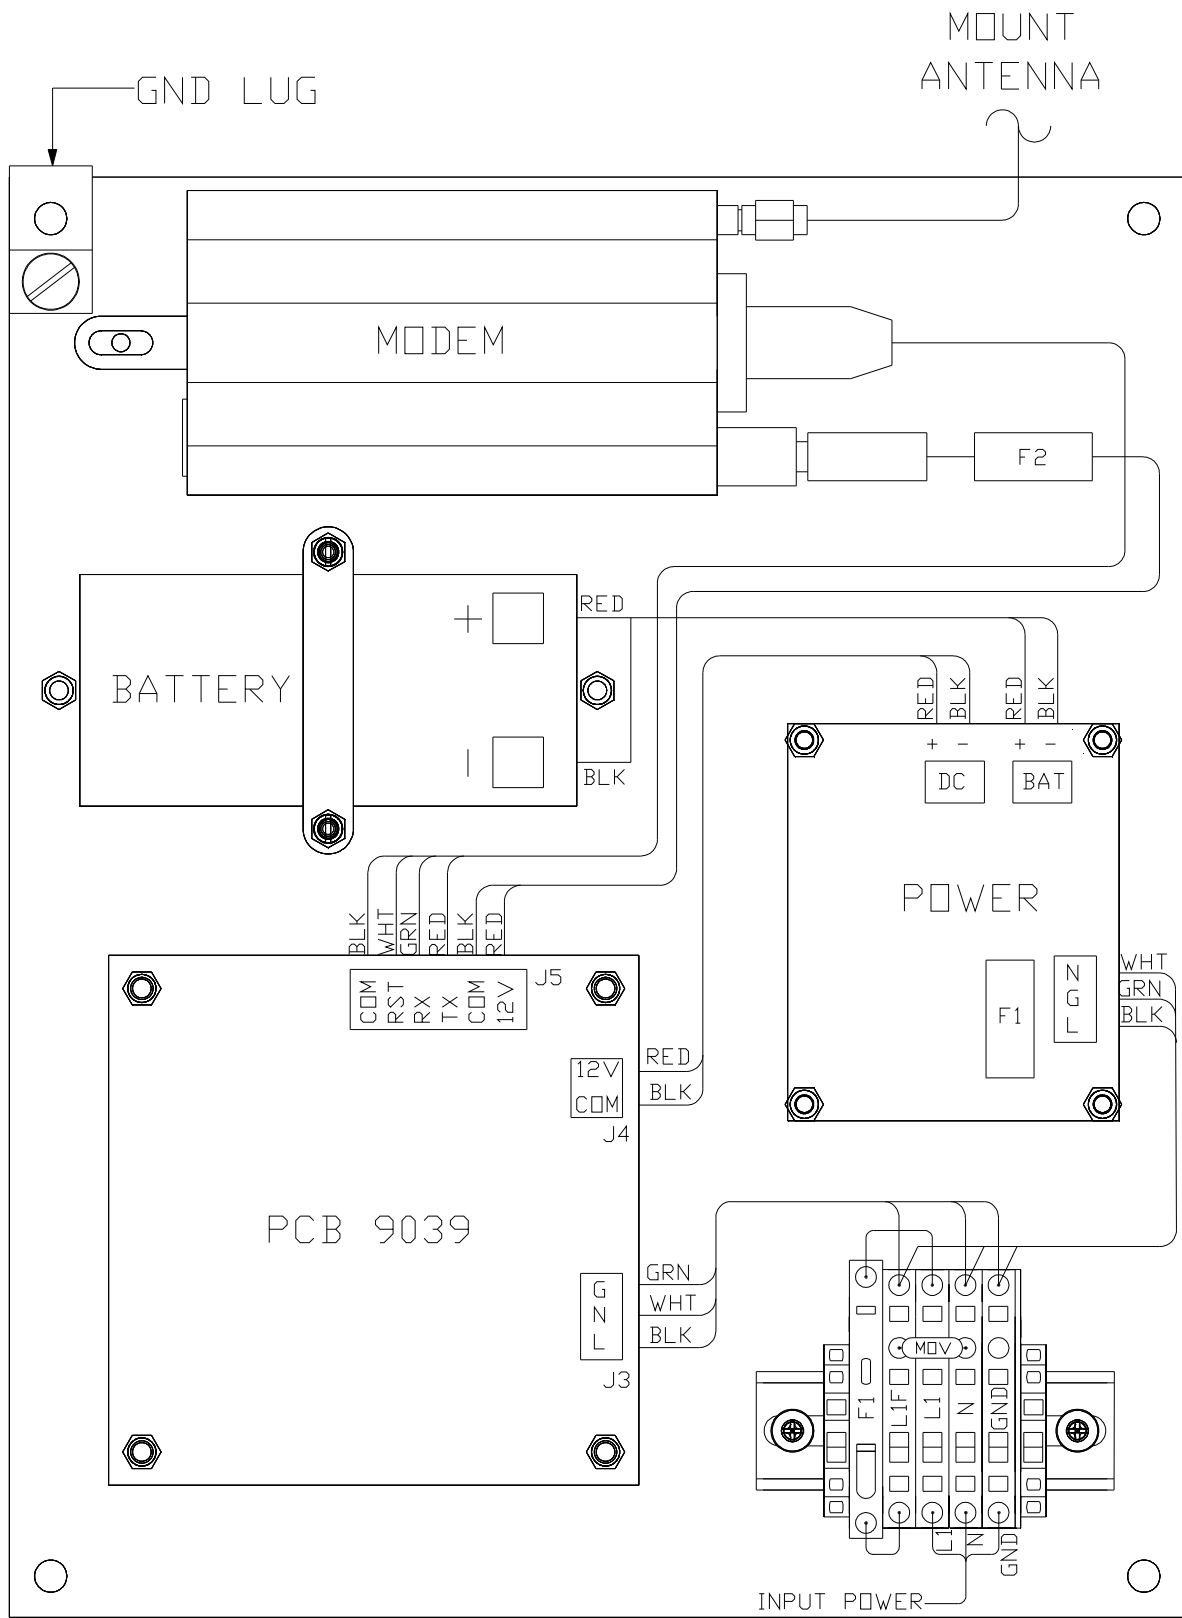
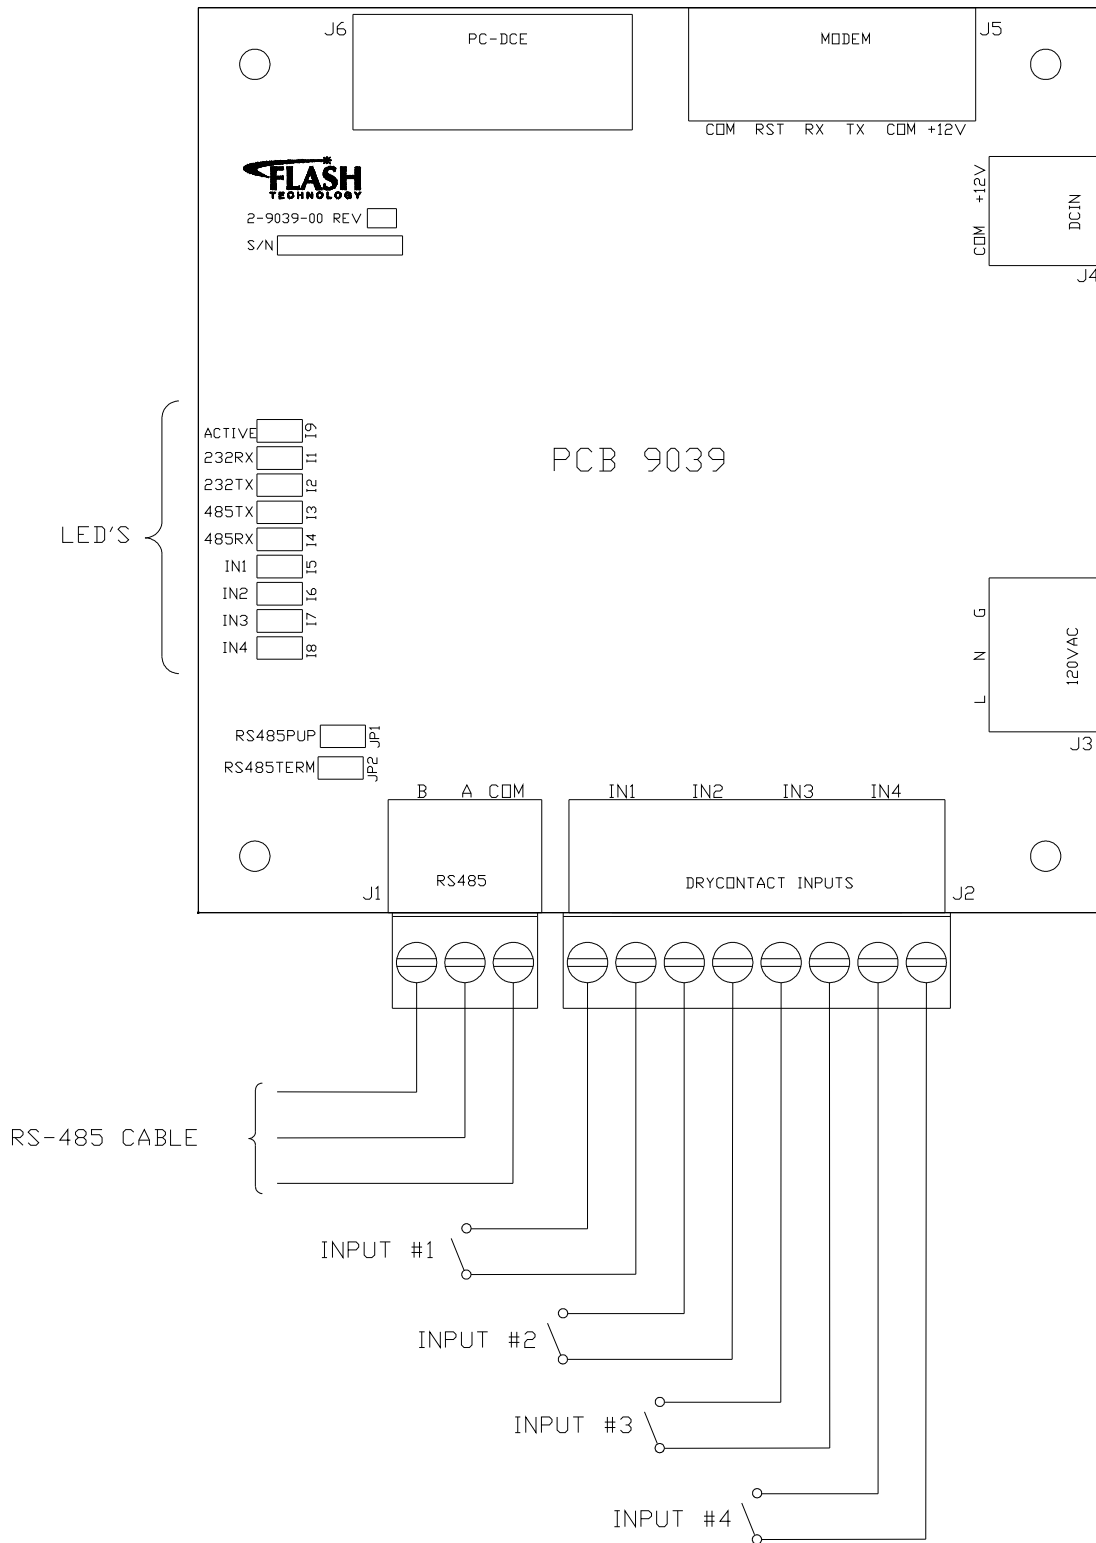

Figure 1-1 – FTW 174 Internal Wiring & Component Layout
Figure 3-3 – PCB 9039 Layout and External Wiring
The component layout and internal wiring of the unit is shown in Figure 1-1. The dry contact inputs are located on J2 of PCB 9039 as shown in Figure 3-3.
The following steps will verify wireless service in your area and must be performed at the location where the unit is to be installed. A label located on the inside front cover of the monitoring unit is provided to call attention to this process. Figure 2-1 depicts the label noted above. Prior to installation, the on-site technician should apply 120 VAC to the unit and then monitor the green LED indicator labeled “ACTIVE” on PCB 9039 for status. See Figure 3-3 for location of the LED. If wireless service is available, the LED will
Connect the equipment to be monitored via dry contact inputs as shown in Figure 3-3. A label has been provided on the inside cover of the unit to record each input, up to four (4), that is connected. Figure 3-2 depicts the dry contact input label.
Connect the equipment to be monitored via RS-485 as shown in Figures 3-5 or 3-6. Figure 3-3 shows the layout of the PCB 9039 board.
To provide increased immunity from lightning damage to the FTW 175, it is essential that the Ground Lug located in the upper left corner of the FTW baseplate (Figure 1-1) be properly connected by a No. 2 AWG conductor to the site Grounding System. Observe proper Grounding Procedures.
Table 3-1 describes the LED's that are present on the PCB 9039. The location of each LED is shown in Figure 3-3.
2. Re-apply power to the equipment and observe the “Active” LED shown in Figure 3-3. Once the LED is “On with short BLINKS”, communication with the NOC has been established. This process may take several minutes. Refer to Figure 2-1 and Table 3-2 for complete details of the “Active” LED.
4. Connect the red wire to + (Positive) and the black wire to – (Negative) on the battery as shown in Figure 1-1.